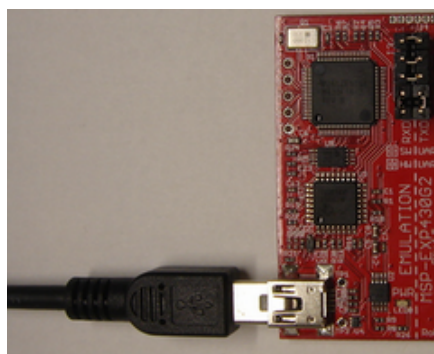

Figure 6. Connect USB
7. Connect hardware as shown in Figure 6.